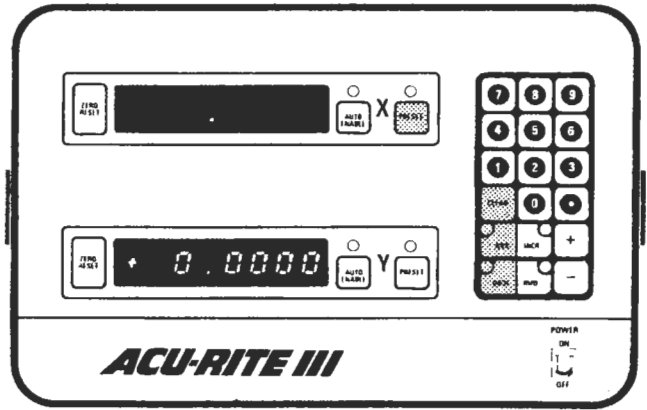

Figure 3-20 Console Status: Clearing Preset in Absolute Mode
- e. The absolute mode can be used just like the incremental mode (Figures 3-20 and 3-21). As a rule, however, the absolute mode should be used as in step "b" above or for machining in combination with the incremental mode.